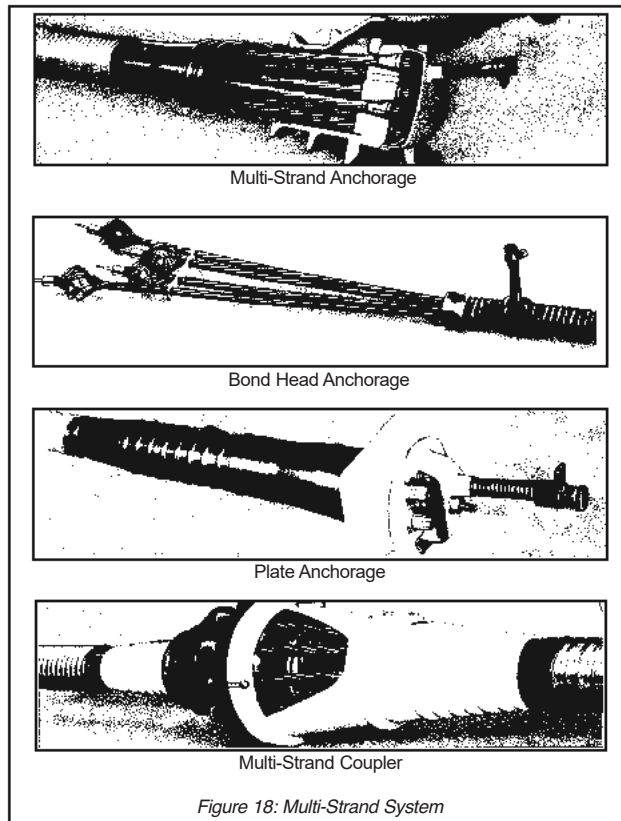

Figure 18: Multi-Strand System
- Large multi-strand tendons can have from 31 to 55 strands (Figure 18).